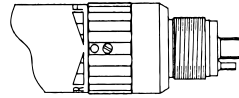

Fig. 5
- (3) When the FWD/REV Change Ring is positioned at the middle of “F” and “R” , the drive air is interrupted and the motor does not rotate.(Fig.5)